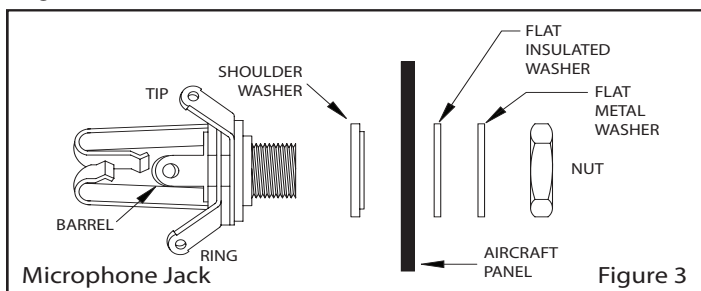

Figure 3
MOUNTING HEADPHONE AND MICROPHONE JACKS (See Figure 3)
3. Drill 1/2" diameter holes for the mic jacks and install with the insulating washers supplied. (See Figure 3).